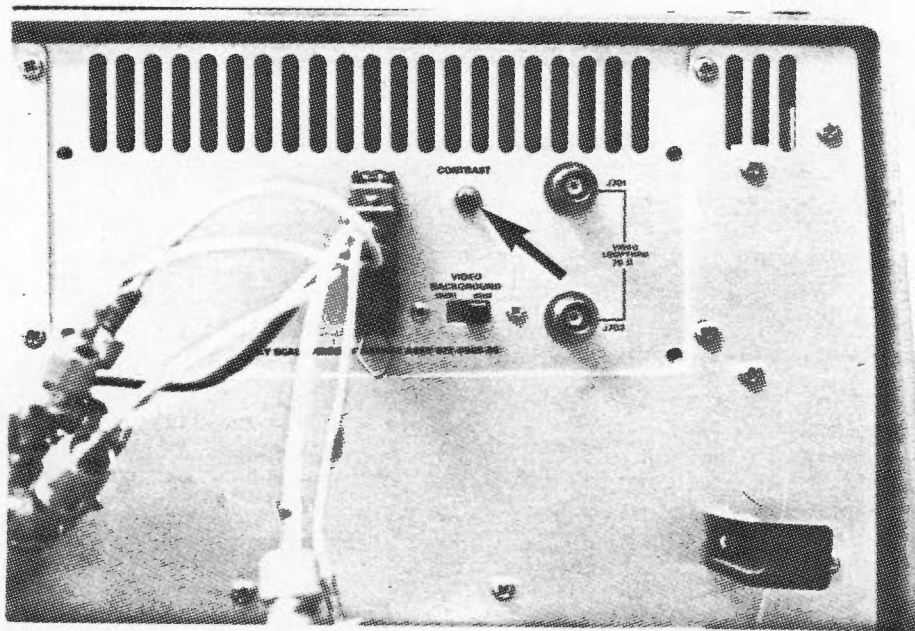

FIGURE 13.2. TEKTRONIX Printer -
13. The range of gray level sensitivity can be lowered or raised by adjusting the dial on the back of the printer (Figure 13.2).